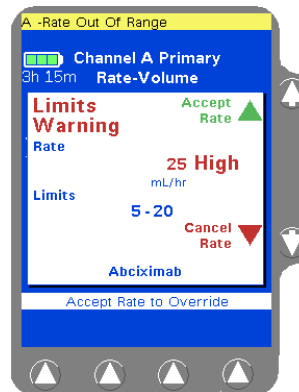

Figure 7 Limits Warning Pop-up
6. Press the **Confirm Primary** soft key. If the values entered result in a dose that is outside the COLLEAGUE GUARDIAN rate limits, a **Limits Warning** pop-up is displayed (Figure 7).